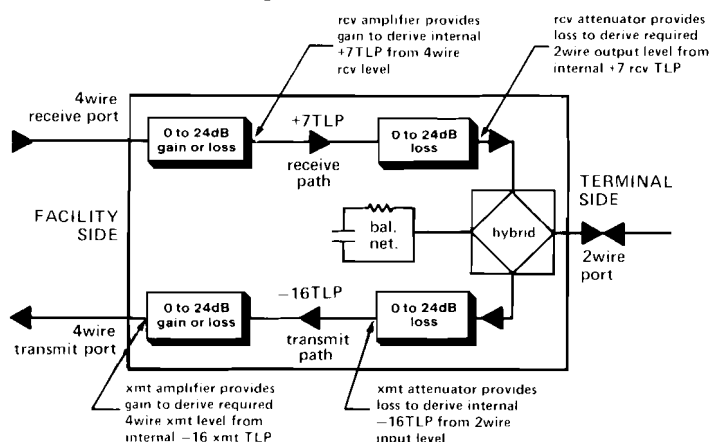

figure 11. Level coordination in 6162X
3.14 Because internal TLP levels of +7TLP in the receive path and -16TLP in the transmit path must be maintained regardless of external levels, two level control circuits are present in each path. This is shown in figure 11.